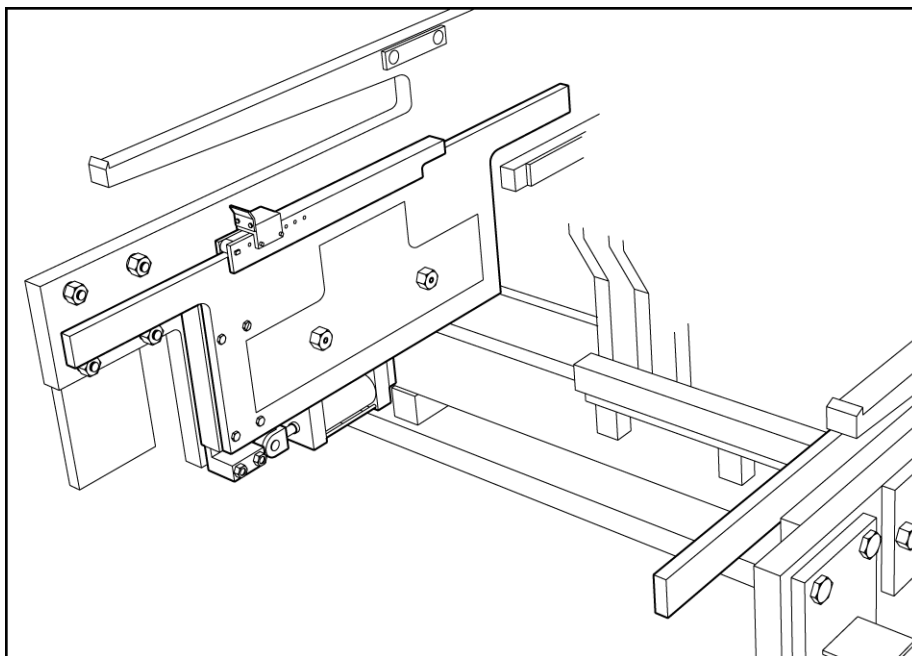

Figure 5.7 MOLD INSERTION DEVICE IN LOWER POSITION
5.3.26 If your machine is equipped with a Mold Insertion Device, push carriages under shaft assembly of mold. Then raise carriage to carry position using the hand control. Figure 5.7 shows the Mold Insertion Device in its lower position.